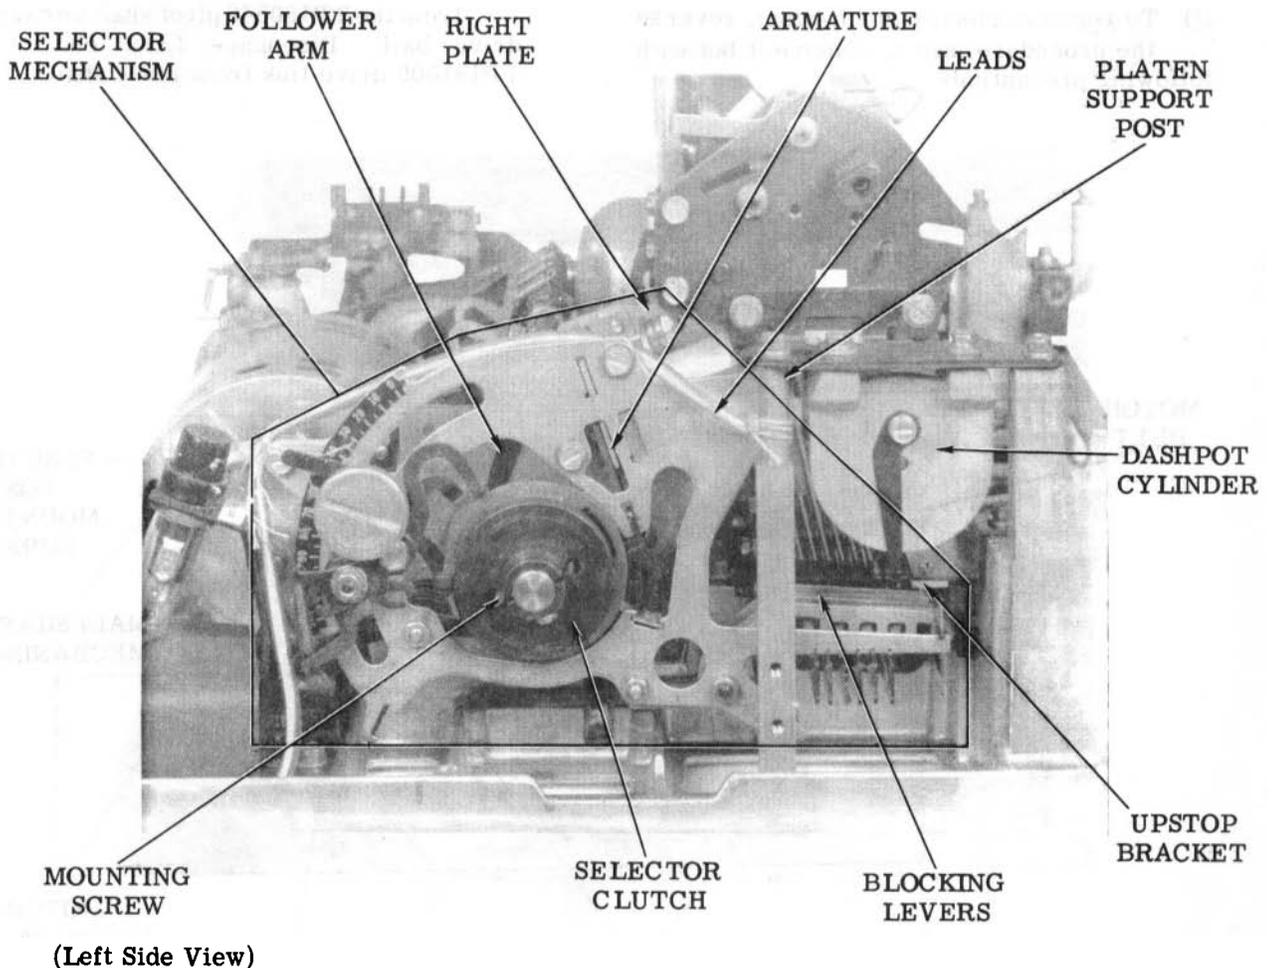

Figure 6 - Selector Mechanism
2.17 To remove selector mechanism (Figure 6), proceed as follows.